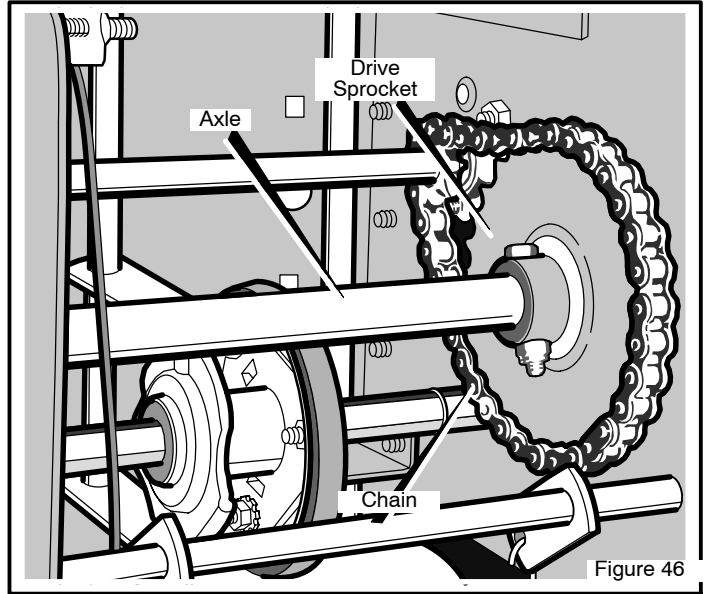

Figure 46
6. Remove the fasteners that secure the **drive sprocket** to the **axle** (see Figure 46).
15. Install the right wheel, **axle**, and **drive sprocket** with the fasteners removed earlier. Install the **chain** onto the **drive sprocket** (see Figure 46).